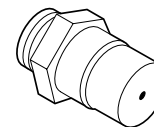

Figure 40
Step 7. Remove the orifice from the manifold and replace it with the one provided with the kit. See the following table for orifice sizes for natural and propane models. **Figure 40** illustrated the orifice.